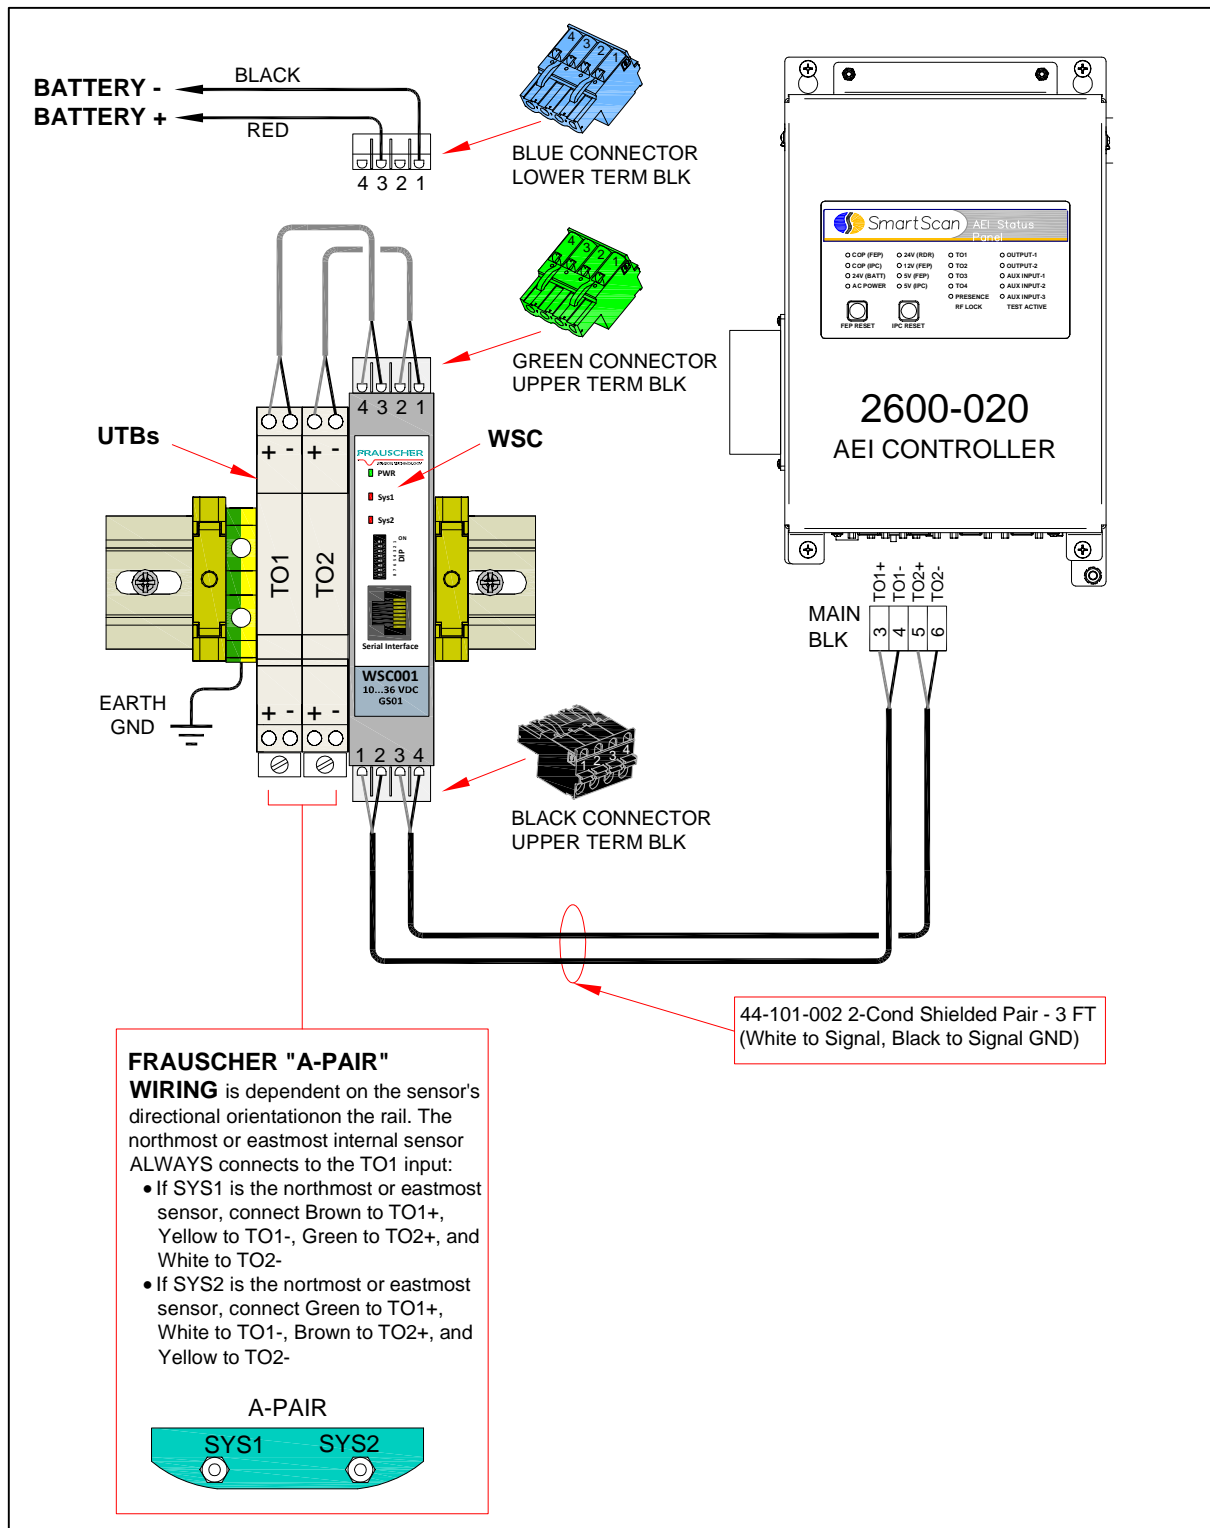

Figure 5: Frauscher Wiring to 2600-020 (Optional Configuration – Single Wheel Detector)
2. Route the RSR110 wheel detector cables into the system enclosure. Wall mount the Frauscher Signal Convert Kit and terminate wiring per Figure 5 (for 2600-547) or Figure 6 for (2600-548).
One possible cause is a reverse polarity condition. Verify that all wiring is properly terminated per Figure 5 or Figure 6. Correct wiring errors as necessary, and run the Automatic Adjustment function again.